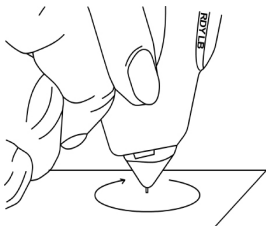

Fig. 2.3
- Hold the probe pen with the pen tip forming a right-angle (90-degree) with any paper or stone rest (as provided). Gently move in a circular motion without retracting the tip (**Fig. 2.3**).